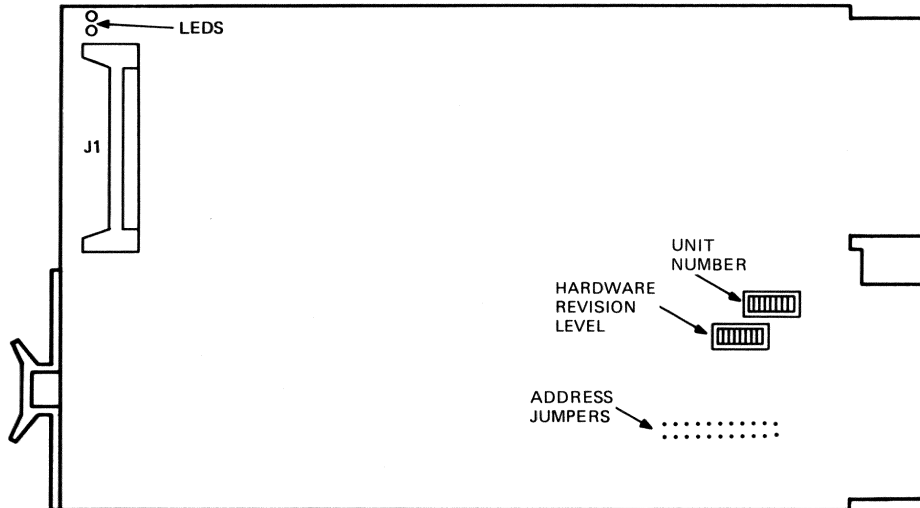

Figure 2-8 M7546 Controller Module
The M7546 controller module (Figure 2-8) provides the interface between the TK50-AA tape drive and the Q22-Bus.
2.3.4.2 M7546 Controller Module Revision Level and Unit Number – Two sets of DIP switches on the M7546 controller module (Figure 2-8) configure the hardware revision level and the unit number. The switches in both DIPs have binary-weighted values.